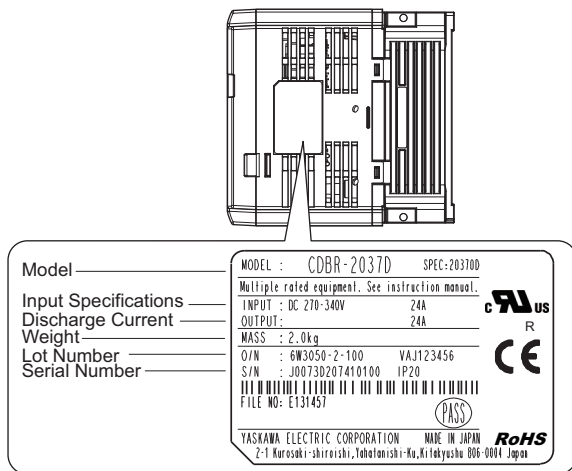

Figure 3 Nameplate Example (CDBR Braking Unit)
2. Confirm that the model number on the option nameplate and the model listed in the purchase order are the same. Refer to Figure 3 on page 14 for details. Contact the distributor where the option was purchased or the Yaskawa sales office immediately about any problems with the option.